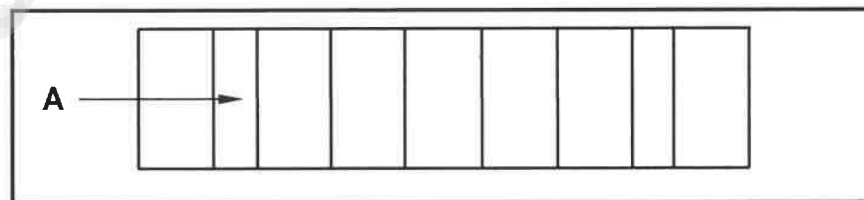

FIGURE 3.10
- 3.10 FIGURE 3.10 below shows the top view of a one-brick wall built in English bond.